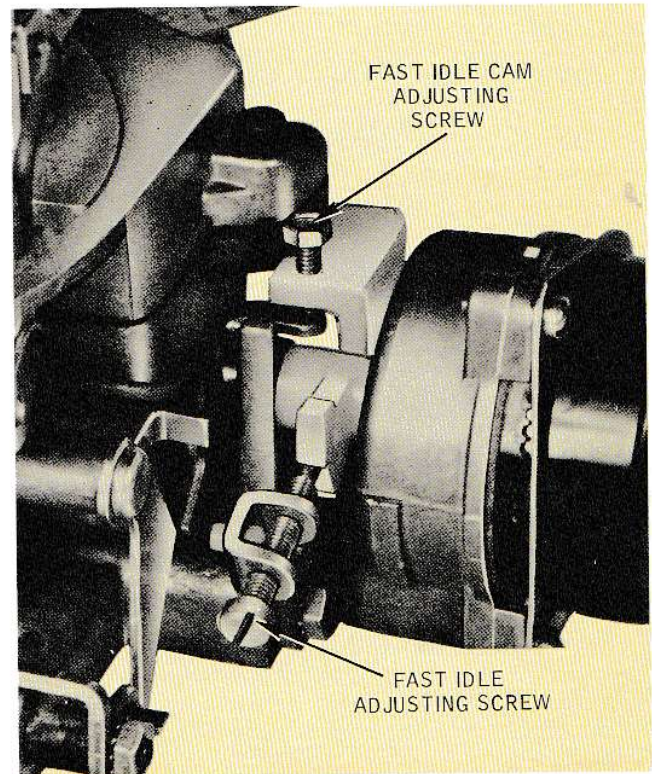

Fig. 29 — Fast Idle Cam Position for Engine Warm-Up
1. The engine and underhood temperatures must be stabilized before idle adjustments are made. Therefore, operate the engine a minimum of 20 minutes at 1500 rpm. This can be done by positioning the fast idle screw on the intermediate step of the fast idle cam (Fig. 29).